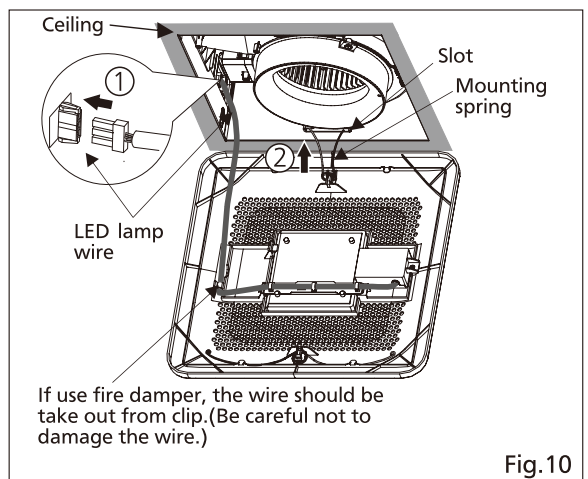

Fig.10
12. Connect the LED lamp wire to fan body as shown in Fig.10 ① .
13. Insert one mounting spring into slot as shown in Fig.10 ② . (If not, the grille may not be installed.)